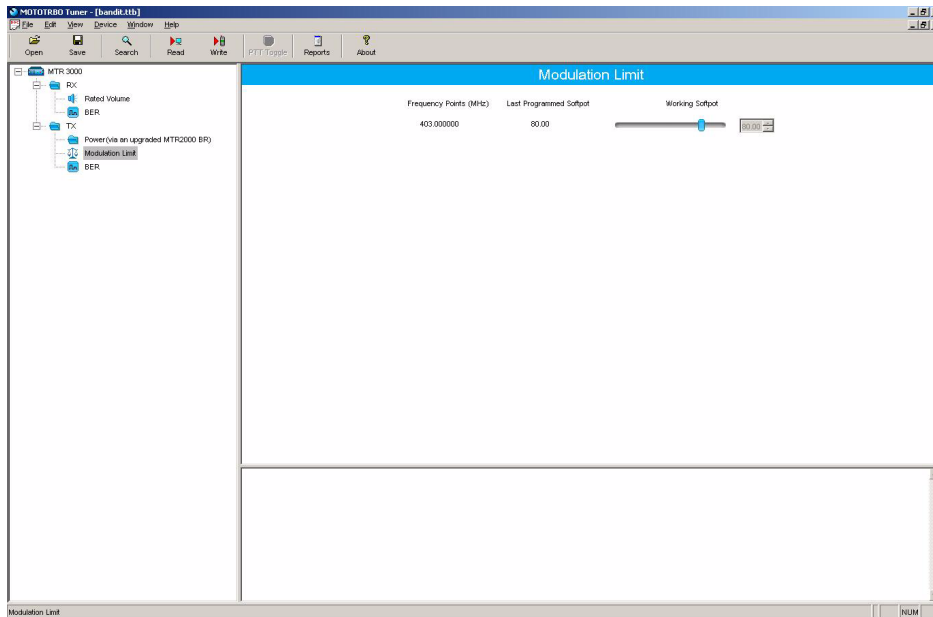

Figure 12-6. Tx Menu tree (Tuning Procedure with no Tx data)
5. Select "Modulation Limit" under the Tx menu in the tree view (Refer to Figure 12-6).